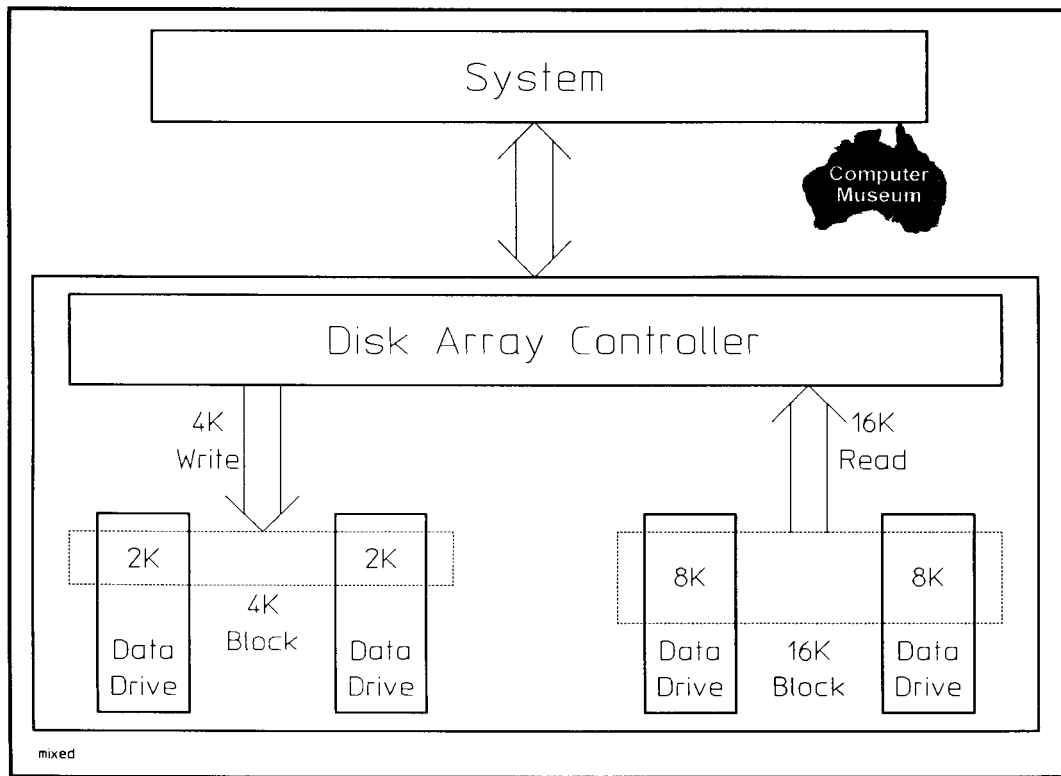

Figure 1-7. Mixed Mode
Mixed Mode combines the I/O concurrency of Independent Mode and the high data transfer rates of Striped Mode. When a disk array operates in Mixed Mode, two groups of two synchronized disk drives each are combined (see Figure 1-7). Each group functions as a single logical device (LDEV) or logical unit (LU) on the system. As in Independent Mode, one group can service one I/O request while the other group services another I/O request. And, as in Striped Mode, data is distributed byte-by-byte across the disk drives within a group. This enables each group to achieve twice the data transfer rate of a single disk drive. Thus, Mixed Mode is well suited for applications that require both I/O concurrency and high data transfer rates.